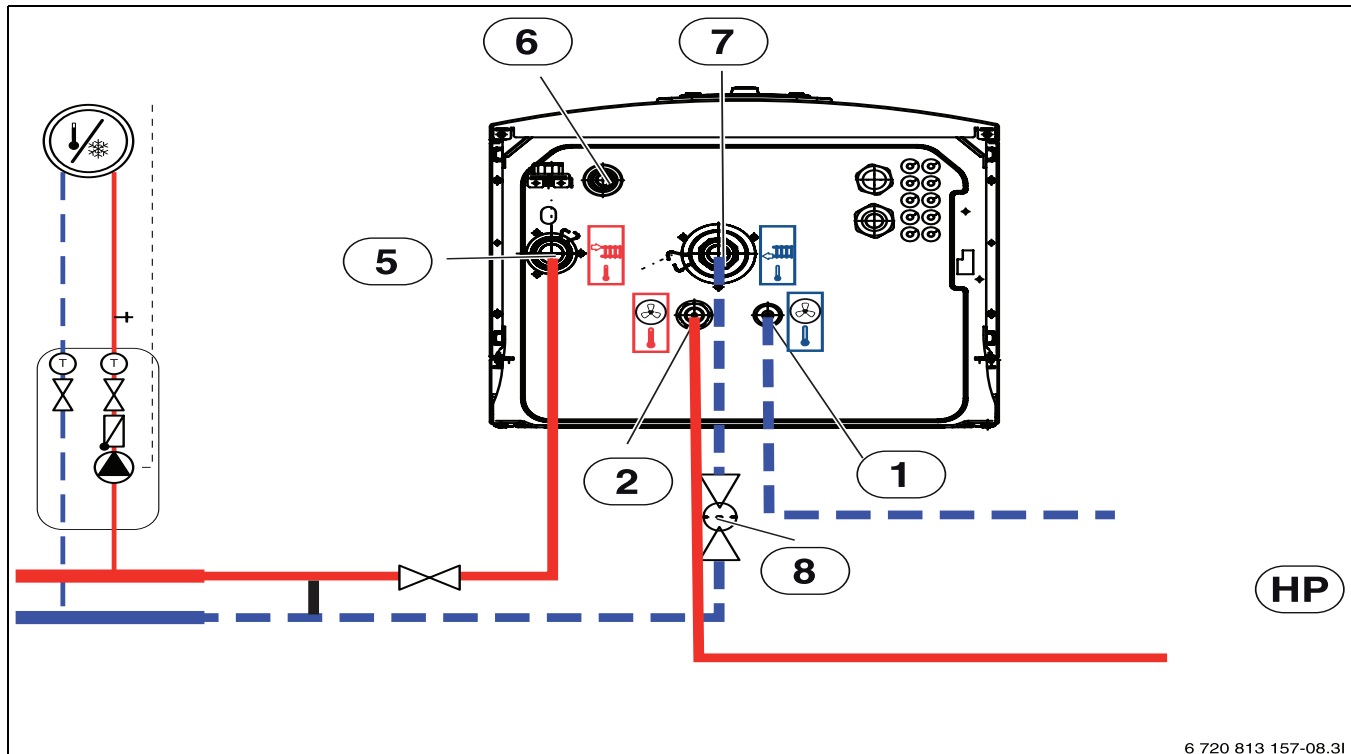

Fig. 7 Connection of an indoor unit with an immersion heater to a heat pump and heating system
1. Run the drain hose from [6] fig. 7 to a frost protected outlet.
2. Connect heat transfer medium pipes from the heat pump to [2] fig. 7.
3. Connect heat transfer medium pipes to the heat pump [1] fig. 7.
4. Connect the return from the heating system to [7] fig. 7.
5. Connect the flow from the heating system to [5] fig. 7.